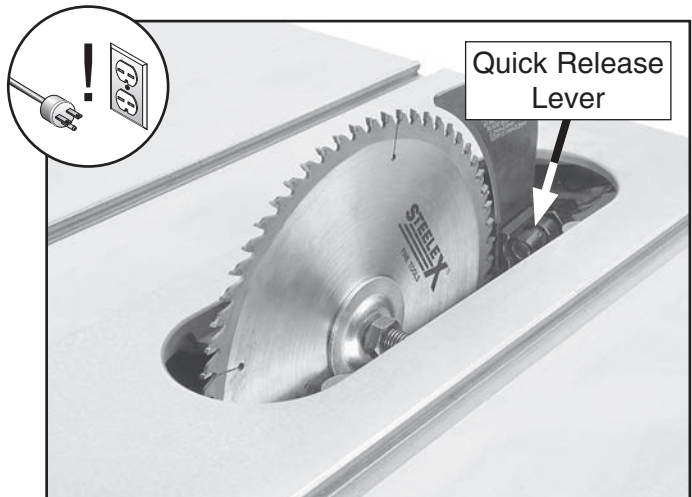

Figure 118. Quick release lever.
3. Loosen the quick release lever shown in **Figure 118**.